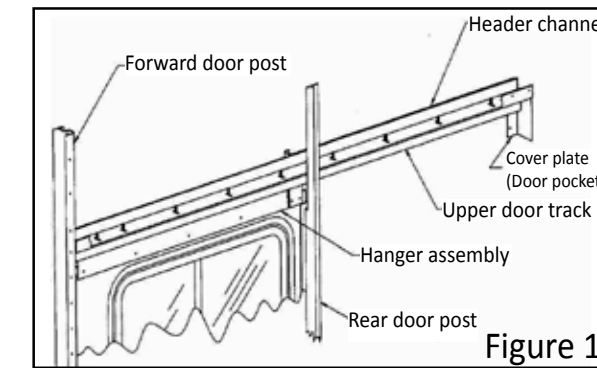

Figure 1
1. Loosen all of the nuts on the studs that are on the upper door track (see figure 1) There are slots in the channel for adjustment purposes.
3. Remove the door pocket end cap if necessary, so that the upper door track can be adjusted easily (see figure 1)